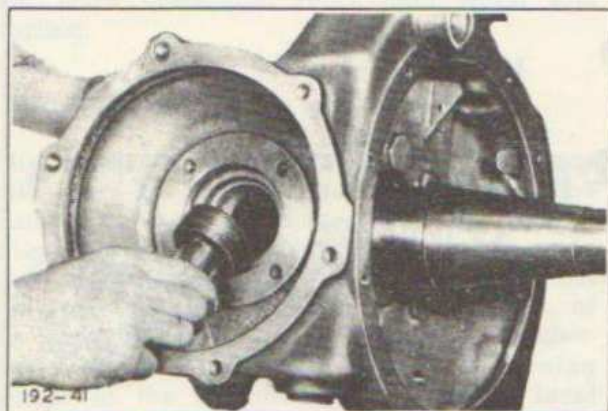

Fig. 34—Attaching Puller Plug to King Pin
Remove capscrews (52). Screw a  $2\frac{1}{8}$ "-12 puller plug into bottom end of the king pin (53). (See Figure 34).